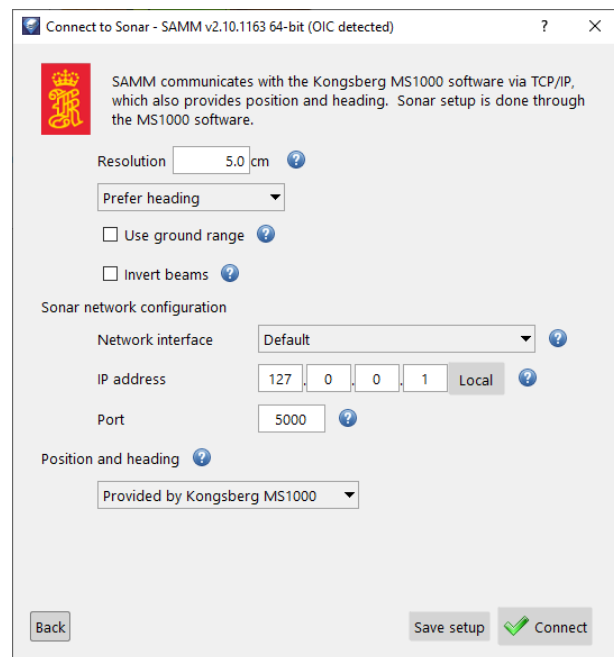

Figure 45. MS1000 Interfacing
6. In the MS1000 interface window (Figure 45), set processing parameters as necessary.